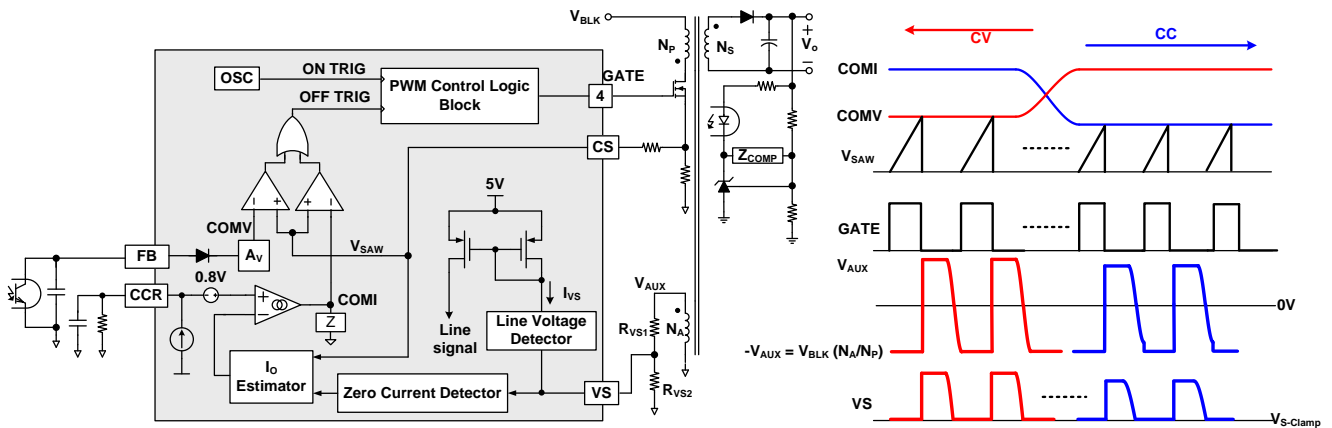
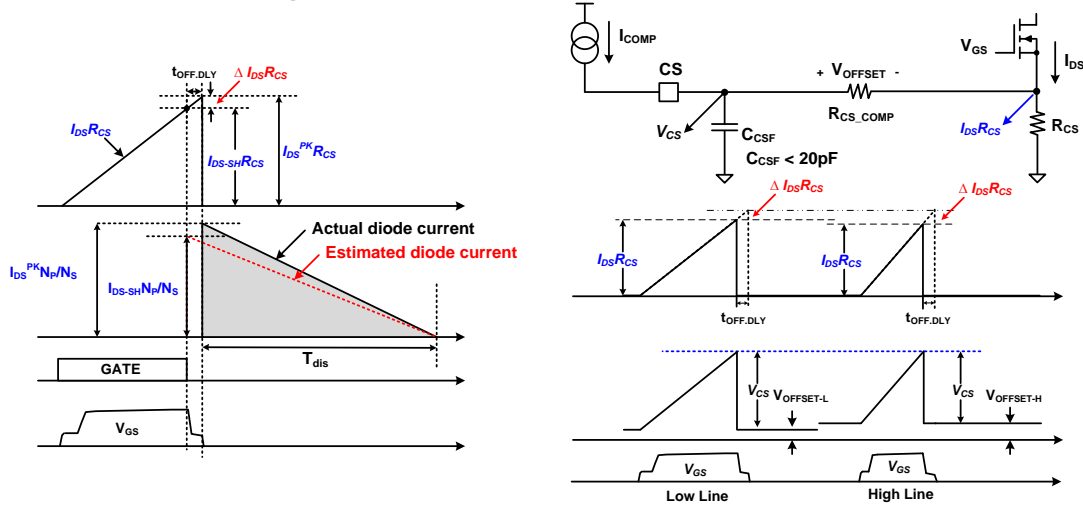

Figure 27 Simplified PWM Control Circuit and PWM Operation for CV/CC Regulation
Figure 29 Effect of MOSFET Turn-off Delay and Line Voltage Compensation
The FAN604 indirectly senses the line voltage through the VS pin while the MOSFET is turned on, as illustrated in Figure 27. During MOSFET turn-on period, the auxiliary winding voltage, V_{AUX} , is proportional to the input bulk capacitor voltage, V_{BLK} , due to the transformer coupling between the primary and auxiliary windings. During the MOSFET conduction time, the line voltage detector clamps the VS pin voltage to $V_{S-Clamp}$ ($0 V$), and then the current I_{VS} flowing out of VS pin is expressed as:
Figure 27 shows a simplified CV / CC PWM control circuit of the FAN604. The Constant Voltage (CV) regulation is implemented in the same manner as the conventional isolated power supply, where the output voltage is sensed using a voltage divider and compared with the internal reference of the shunt regulator to generate a compensation signal. The compensation signal is transferred to the primary side through an opto-coupler and scaled down by attenuator A_V to generate a COMV signal. This COMV signal is applied to the PWM comparator to determine the duty cycle.
These two control signals, COMV and COMI, are compared with an internal sawtooth waveform (V_{SAW}) by two PWM comparators to determine the duty cycle. Figure 27 illustrates the outputs of two comparators, combined with an OR gate, to determine the MOSFET turn-off instant. Either of COMV or COMI, the lower signal determines the duty cycle. During CV regulation, COMV determines the duty cycle while COMI is saturated to HIGH level. During CC regulation, COMI determines the duty cycle while COMV is saturated to HIGH level.
The output current estimation is also affected by the turn-off delay of the MOSFET as illustrated in Figure 29. The actual MOSFET's turn-off time is delayed due to the MOSFET gate charge and gate driver's capability, resulting in peak current detection error as
Where L_m is the transformer's primary side magnetizing inductance. Since the output current error is proportional to the line voltage, the FAN604 incorporates line voltage compensation to improve output current estimation accuracy. Line information is obtained through the line voltage detector as shown in Figure 27. I_{COMP} is an internal current source, which is proportional to line voltage. The line compensation gain is programmed by using CS pin series resistor, R_{CS_COMP}, depending on the MOSFET turn-off delay, t_{OFF_DLY}. I_{COMP} creates a voltage drop, V_{OFFSET}, across R_{CS_COMP}. This line compensation offset is proportional to the DC link capacitor voltage, V_{BLK}, and turn-off delay, t_{OFF_DLY}. Figure 29 demonstrates the effect of the line compensation.